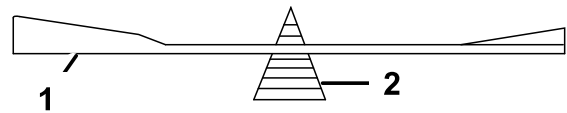

Figure 120
2. Check the balance of the blade by putting it on a blade balancer (Figure 120).